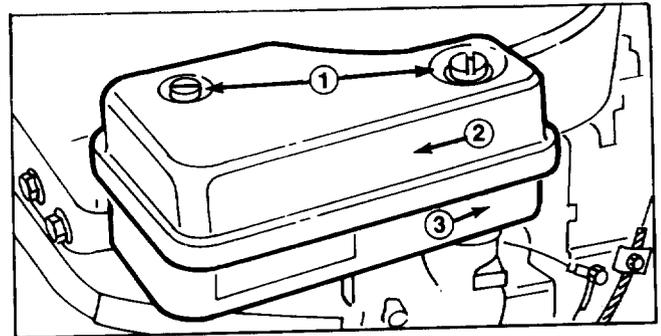

Figure 16
2. Remove two screws and lift complete air cleaner assembly off carburetor (Fig. 16).
1. Remove the screws holding air cleaner in place and lift complete air cleaner assembly off carburetor (Fig. 16).